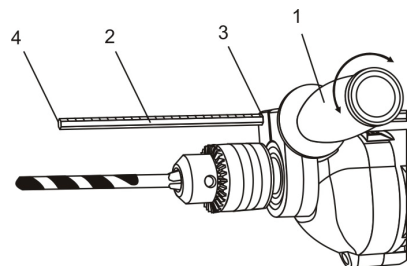

Fig. 8
1. Rotate the auxiliary handle (1) counterclockwise to open the mounting collar (Fig. 8).
2. Insert the hexagonal depth rod (2) into the matching hole in the auxiliary handle mounting collar (3).
3. Position the depth rod so the tip (4) will contact the workpiece when the drill reaches the appropriate depth.